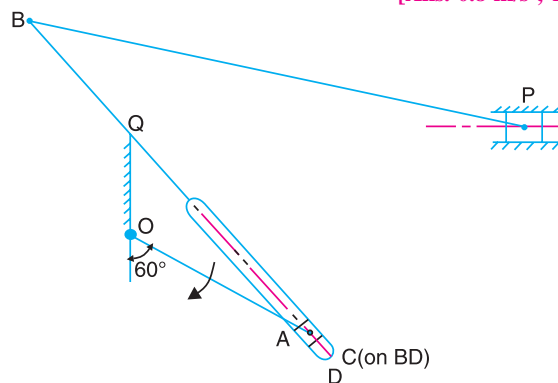

Fig. 7.39
9. In a Whitworth quick return motion mechanism, as shown in Fig. 7.39, the dimensions of various links are as follows :